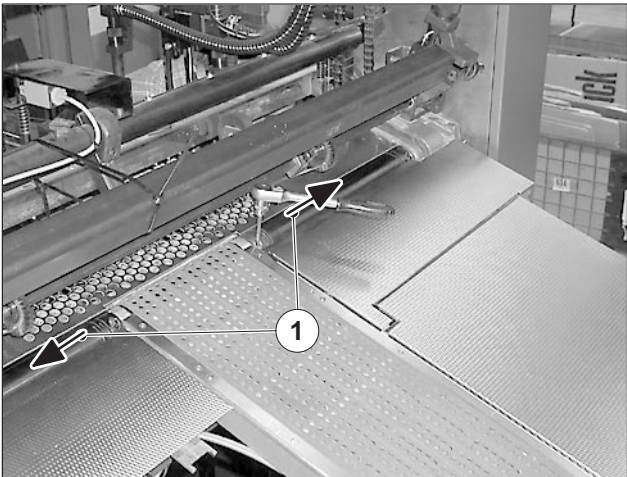

Fig. 84
9. Push the segments of the suction tape drive roller on D.S. and on O.S. outwards in the direction of the arrow (Fig. 84/1).